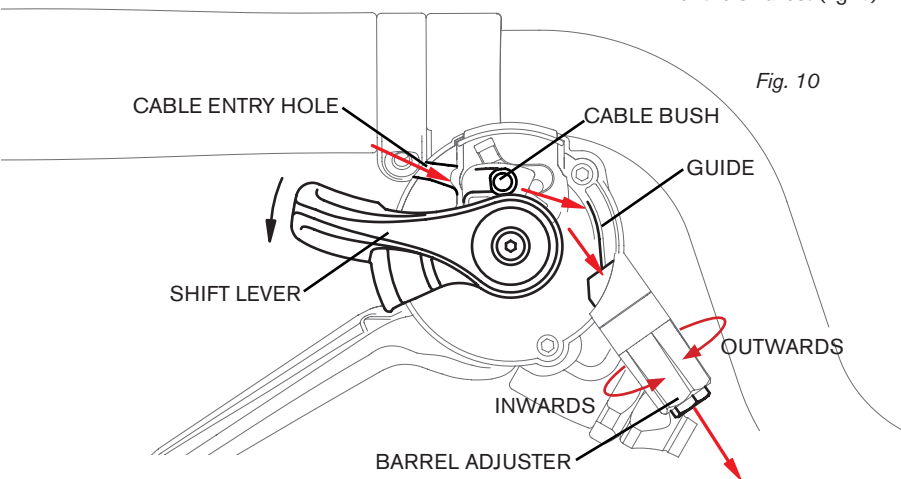

Fig. 10
To add tension lost due to cable stretch, place the bike in a stand. Unscrew the barrel adjuster (fig. 10) outwards a quarter turn at a time, each time pedalling the bike whilst listening for the reduction of noise. A visual check can also be done to insure that the jockey wheel on the derailleur is aligned with the selected sprocket on the cassette. If the bike is failing to reach the largest sprocket this means that too much tension has been added, screw the barrel adjuster inwards to remedy this issue (fig. 10). If this doesn't fix the original issue, change to the smallest sprocket on the cassette, then loosen the bolt holding the cable in place on the inside of the derailleur (fig. 7, 8). Use a small pliers to pull the inner cable IC end to increase the cable tension and then tighten the bolt RS (fig. 8).
- Use the barrel adjuster on the shifter to make adjustments to the cable tension as needed (fig. 10)
- Unscrewing the adjuster will add more tension to the cable and improve shifting into the lower gear (fig. 10)
- The jockey wheel on the derailleurs needs to be in-line with the selected gear sprocket on the cassette (fig. 10).